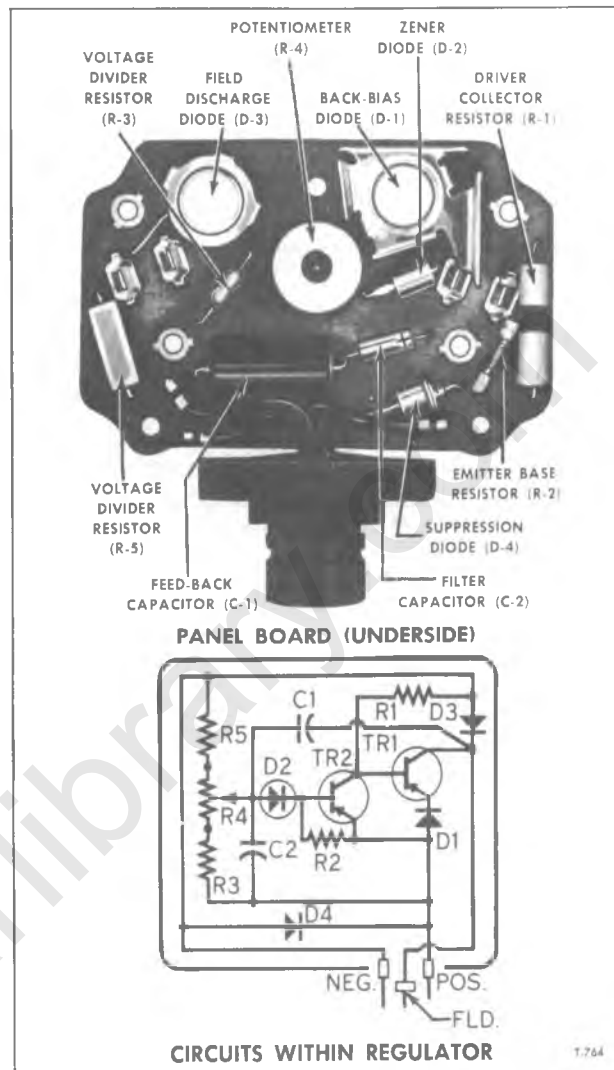

Figure 26—Under Side of Panel Board Assembly
3. To aid in reassembly, note or make any identifying markings on the two transistors and their respective locations on the panel board and heat sink assembly (fig. 26).
4. Note the insulators between the transistors and the heat sink, and the insulators separating the heat sink from the panel board (fig. 26).
If both readings are zero, the capacitor is defective. Visually inspect for open soldered connections and broken leads. To assemble a new capacitor properly, note location of the "+" identifying mark in figure 26.
NOTE: When installing a new potentiometer, locate the adjusting lever in a vertical position (fig. 26), turn the potentiometer resistance adjustment to the middle position, then use a soldering iron to melt the lever into potentiometer.